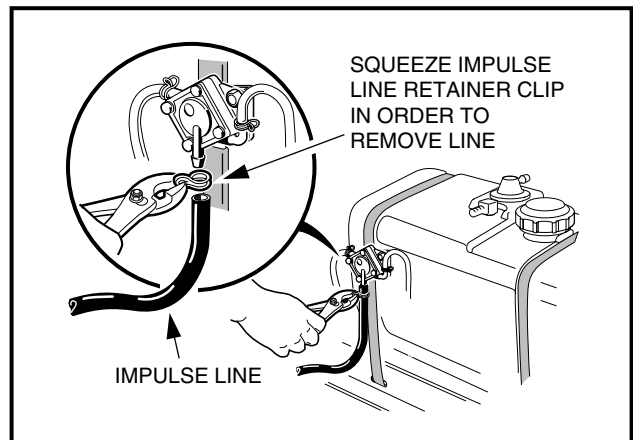

FIGURE 10-12
- 2.3. Use pliers to expand hose clamp, then disconnect impulse line from fuel pump (**Figure 10-12**).